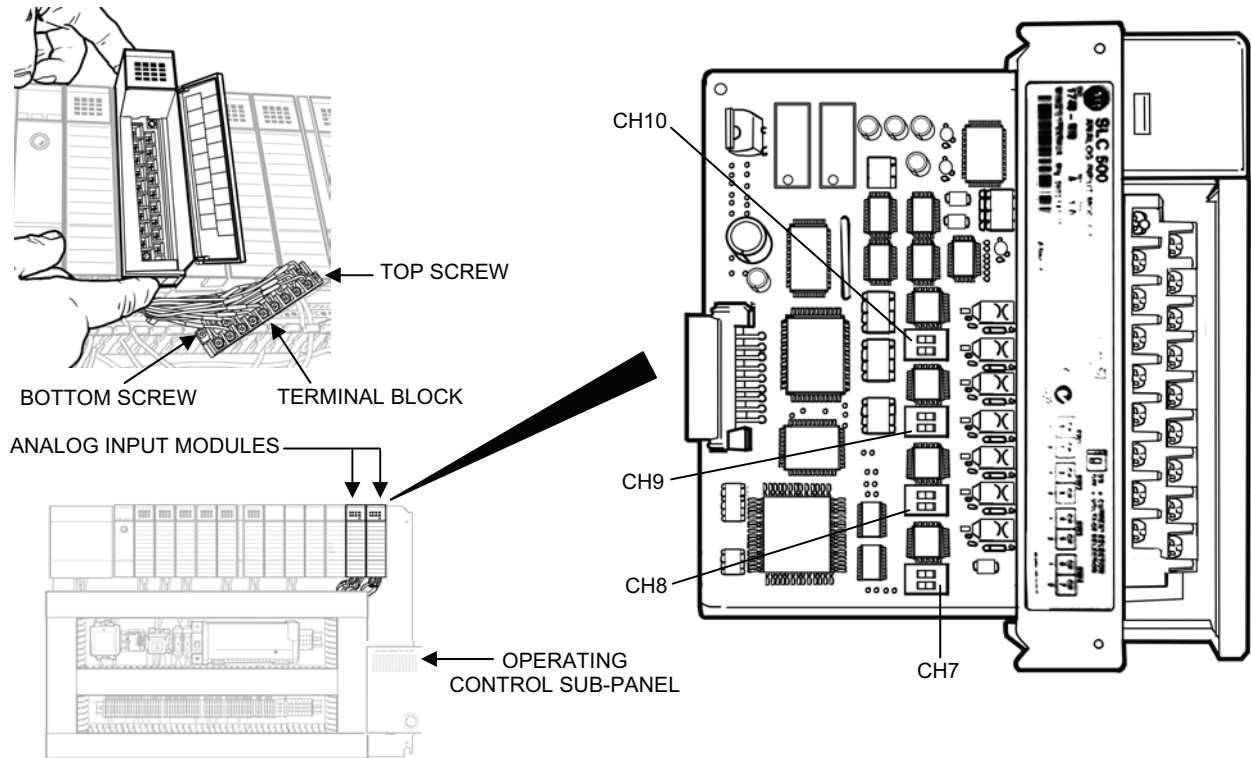

Figure 6. Analog Input Module Replacement.
3. Remove the analog input module as follows (see Figure 6):